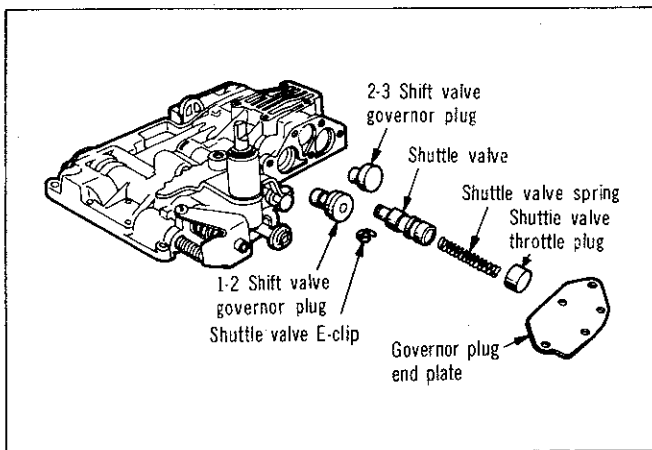

Fig. 40—Shuttle valve and governor plugs
(2) Remove governor plug end plate (Fig. 40) and slide out the shuttle valve throttle plug and spring, the 1-2 shift valve governor plug and the 2-3 shift valve governor plug.
(3) Remove shuttle valve "E" clip and slide shuttle valve out of its bore.
(4) Remove "E" clip and park control rod from manual lever.
#### Shuttle Valve and Governor Plugs (Fig. 40)